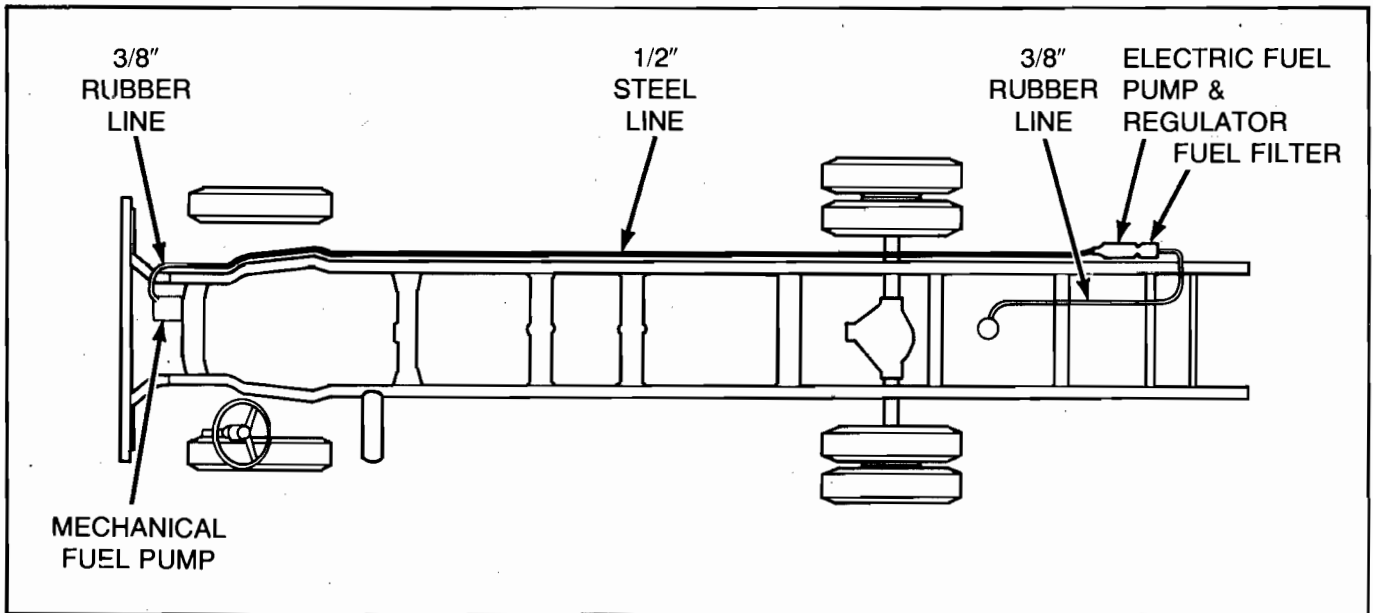

Figure A7-7-2 — 1984 Recommended Field Fix
- A one-half inch steel fuel line mounted on the outside of the frame rail, protected against rub and chafe (see Figure A7-7-2).